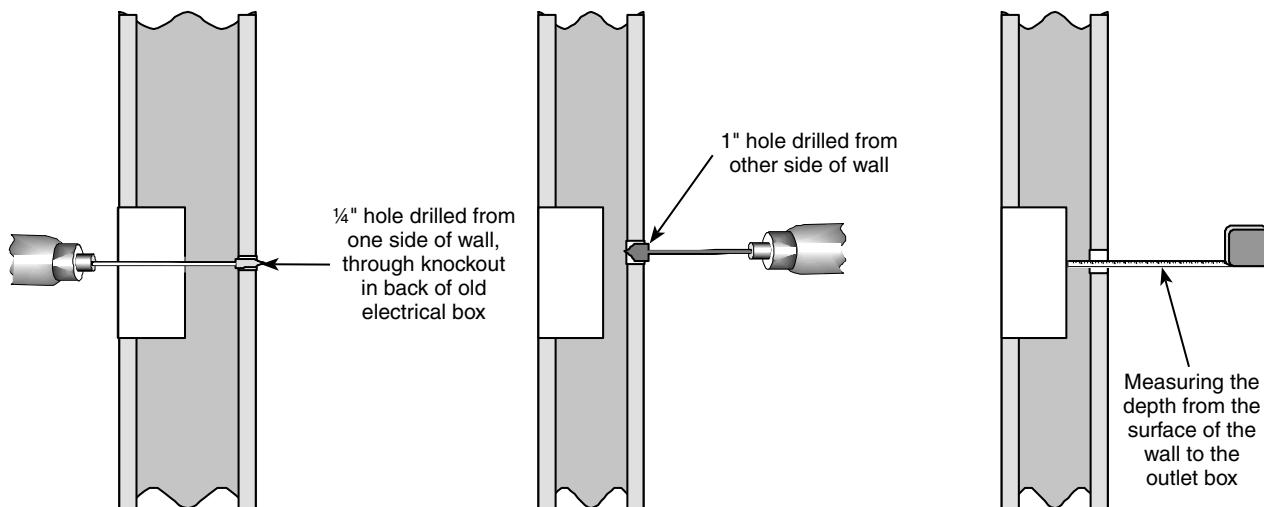

Figure 8-3
- Use a $\frac{1}{4}$ -inch bit and drill through the knockout to make a hole in the wall of the next room; as shown in Figure 8-3. Go into the room and drill a 1-inch hole where the bit just came through.